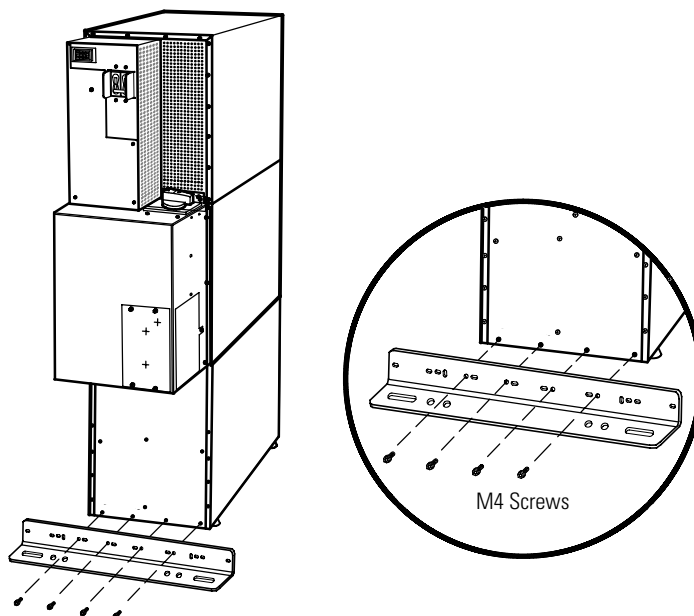

Figure 29. Stabilizing Bracket with One Cabinet
- For one cabinet, see Figure 29.